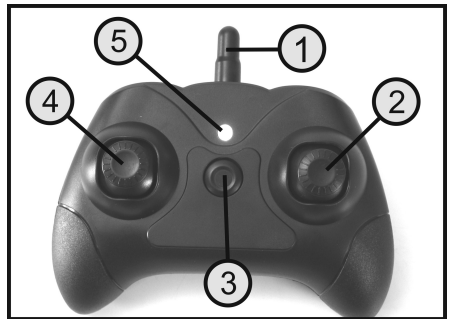
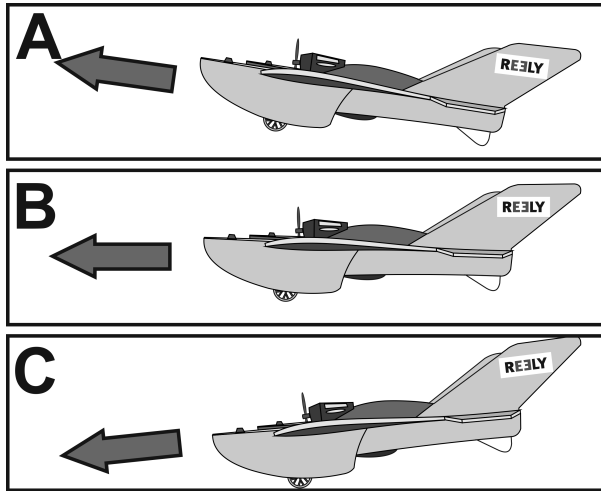

Figure 5
Figure 13
The model is controlled using the two joysticks on the transmitter. With the joystick for speed control (see also fig. 5, pos. 4), the common speed of both electric motors is controlled. When the joystick is in the lowermost position, the motors are off in the ready-to-start model. When the joystick is slowly pushed forward, the motors start and increase the speed. The model starts to roll forward.
Direction control is carried out with the right joystick (see also fig. 5, pos. 2).
If the left joystick for speed control (see also fig. 5, pos. 4) is in the lowest position and only the joystick (see also fig. 5, pos. 2) is deflected, the model will make a big turn.
In flight mode, the joystick for speed control (see also fig. 5, pos. 4) controls the motor speed and thus the altitude. When the joystick is in the uppermost position, both motors will run at maximum speed and the model will go up (see fig. 13 A).
When the joystick is moved back to the centre position, the motor speed of both motors is reduced and the model flies at a constant height (see fig. 13 B).
If the joystick is retracted further, both propellers will run at a reduced speed and the model will lose altitude (see fig. 13 C).
The starting helper grips the model at the bottom of the fuselage with his thumb and forefinger (see finger tip in fig. 13).
Press the joystick (see also fig. 5, pos. 2) to the right or left until the model makes the desired change in direction. Start with light and short-term control moves to see how the model responds. The longer and further you press the joystick, the tighter the curves become. At the beginning, try to fly with large and wide circles. Once the model flies in the desired direction, move the joystick back to the centre position.